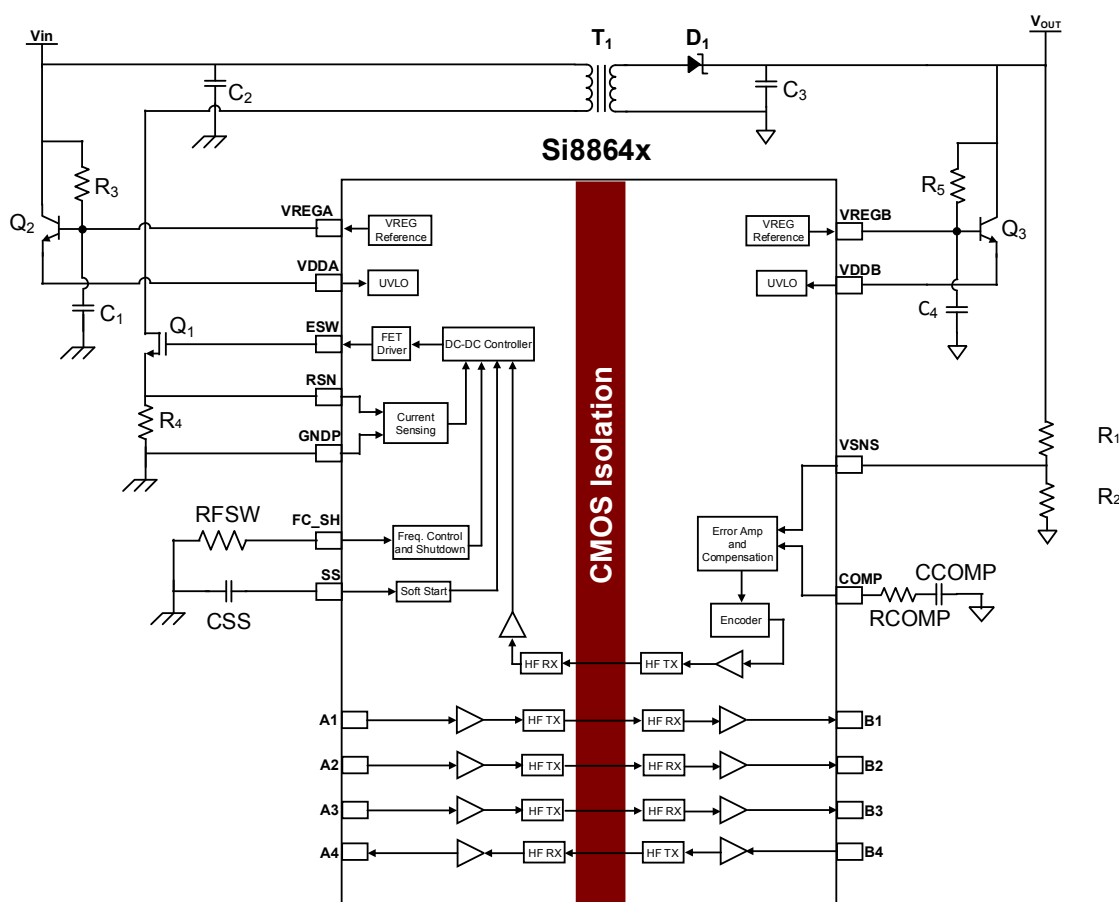

Figure 3.6. Si886xx Block Diagram: 24 V Input to 5 V Output
For higher input supply voltages than 5 V, an external FET Q2 is modulated by a driver pin ESW as shown in (see Figure 3.6 Si886xx Block Diagram: 24 V Input to 5 V Output on page 14). A shunt resistor based voltage sense pin RSN provides current sensing capability to the controller.
**Figure 3.6 Si886xx Block Diagram: 24 V Input to 5 V Output** on page 14 shows the block diagram of an Si886xx with external components. Si886xx is different from the Si882xx/883xx as it has externally-controlled switching frequency and soft start. The dc-dc requires input capacitor C2, transformer T1, switch Q1, sense resistor R4, rectifying diode D1 and an output capacitor C3. To supply VDDB, Q3 transistor is biased and filtered by R5 and C4. External frequency and soft start behavior is set by CSS and RFSW. Resistors R1 and R2 divide the output voltage to match the internal reference of the error amplifier. Type 1 loop compensation made by RCOMP and CCOMP are required at the COMP pin. Though it is not necessary for normal operation, we recommend to use a snubber, to minimize high-frequency emissions. For further details, see “AN901: Design Guide for Isolated DC-DC Using the Si884xx/886xx”.